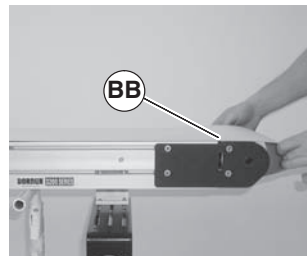

Figure 33
3. Install belt (Figure 33, item BB) on conveyor. Lift conveyor slightly to avoid pinching belt on temporary support stands.